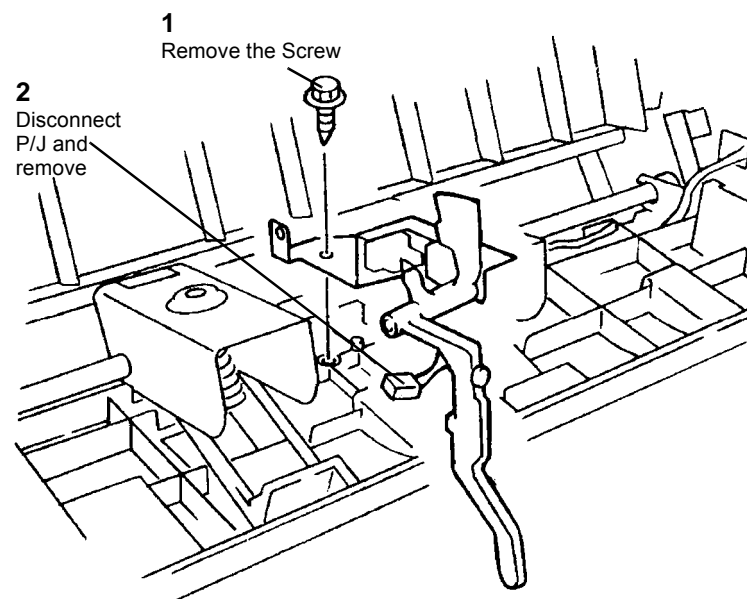

Figure 2 Removing Stack Height Sensor Assembly
2. Remove the Stack Height Sensor Assembly (Figure 2).